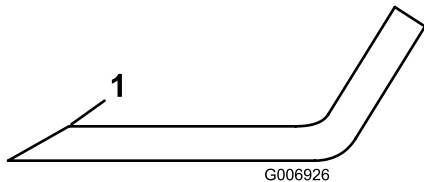

Figure 34
1. Use a file to sharpen the cutting edge at both ends of the blade (Figure 34). Maintain the original angle. The blade retains its balance if the same amount of material is removed from both cutting edges.